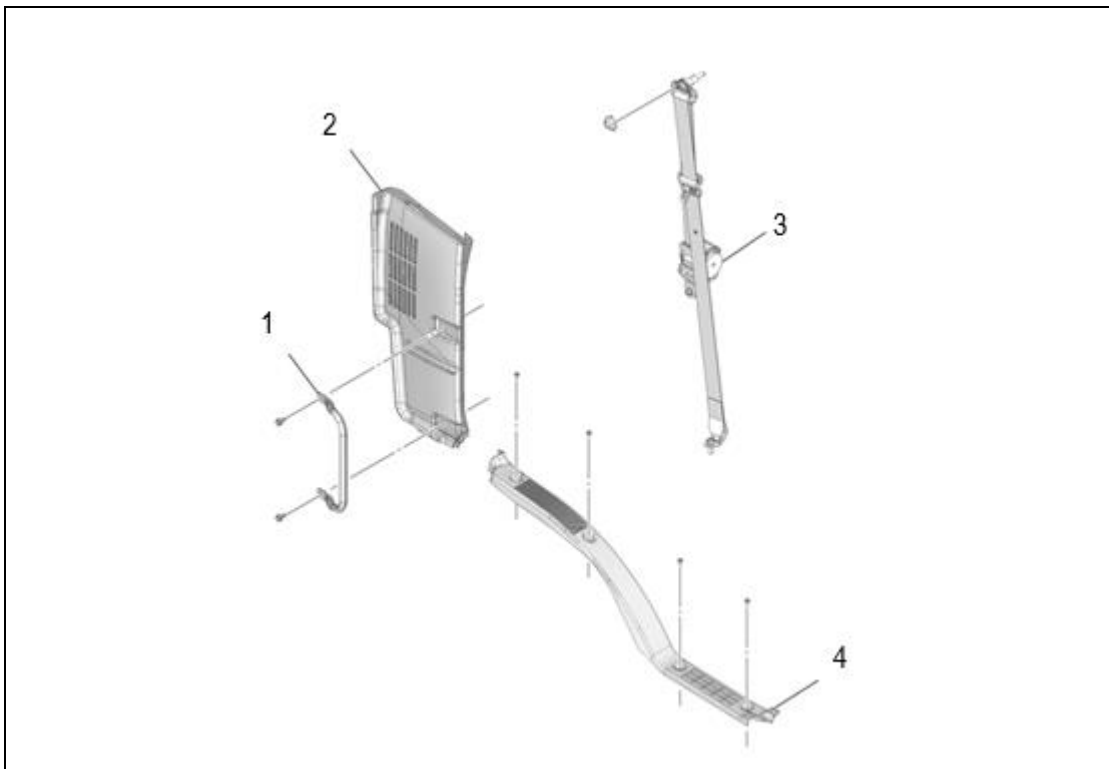

Figure 3
- Remove the two (2) 12mm bolts from the assist handle. Remove and set aside for reuse. (See Figure 3.)
- Remove the four (4) T25 screws from the door side floor mat trim cover. Remove and set aside for reuse. (See Figure 3.)
6. Remove the rear pillar lower trim by pulling the rear of the cover inwards to the center of the cab to detach the mounting clips. Remove and set aside for reuse. (See Figure 3.)
11. Re-install the lower panel trim and firmly push the panel to engage the retaining clips. (See Figure 3.)
12. Re-install the door side floor mat trim cover using the four (4) T25 screws. (See Figure 3.)
13. Re-install the assist handle using the two (2) 12mm bolts. Tighten both bolts to the specified torque. (See Figure 3.)